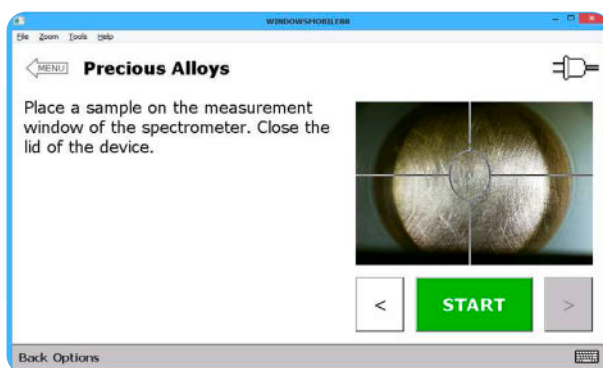

Fig. 45. The window of *PDA Remote Control.exe* programme
4.	The window will appear with the image identical to the spectrometer screen (fig. 45).